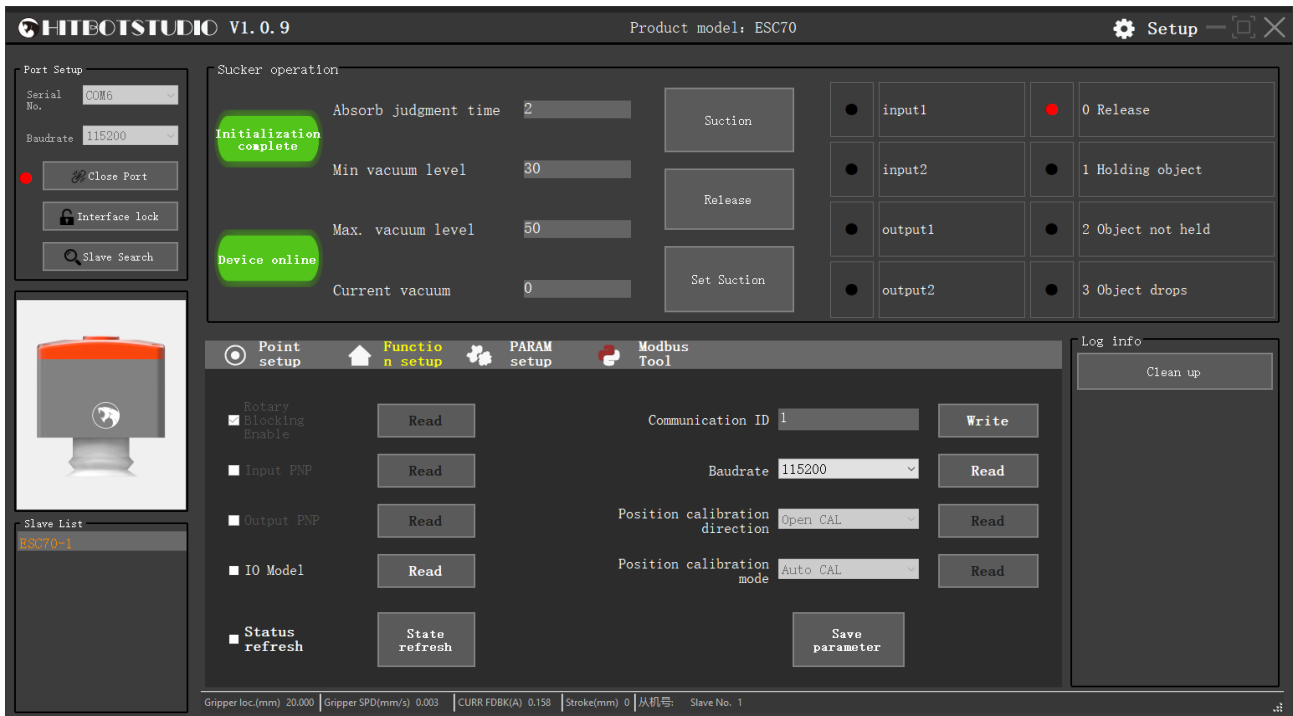

Figure 3-58 (Vacuum Operation Interface)
2. By clicking on the device in the slave list, users can enter the vacuum module interface to perform point setting, function setting (referencing the gripper), parameter setting (referencing the gripper), Modbus tool (referencing the gripper), and vacuum status display. Figure 3-58 shows the vacuum operation interface.